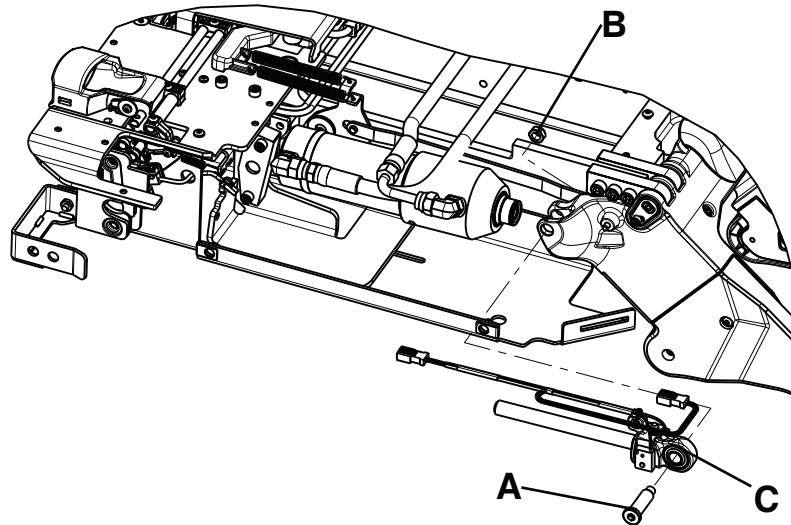
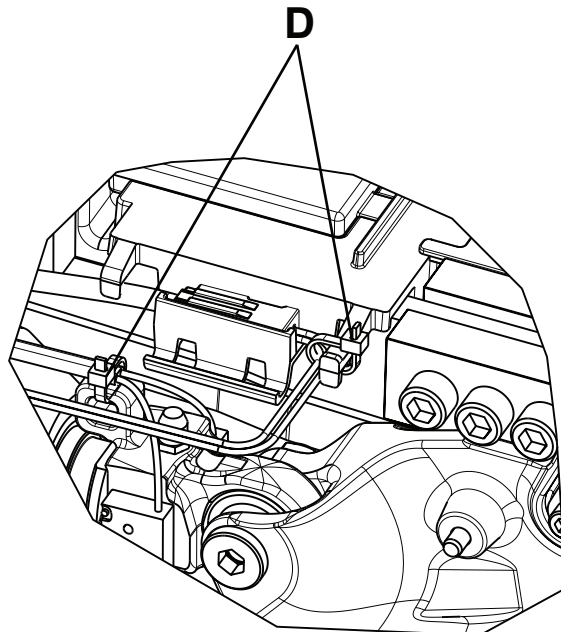

Figure 27: Hydraulic cylinder assembly
Figure 28: Cable ties locations
- Using a 1/4" hex wrench and a 1/2" combination wrench, remove the end cap cylinder pin (A) and nut (B) (Figure 27 on page 60).
- Using diagonal pliers, cut the cable ties (D) (Figure 28 on page 60) that secure the hydraulic cylinder rod end assembly (C) cable to the plastic cover (Figure 27 on page 60).
- While lifting up on the cylinder, remove the hydraulic cylinder rod end assembly (C) (Figure 27 on page 60). Save the hydraulic cylinder rod end assembly for reinstallation.